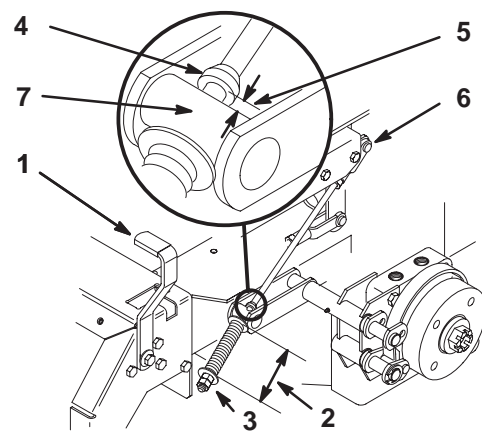

Figure 58
2. Measure the length of the spring. The measurement should be 2-3/4 inch (74 mm) between the washers (Fig. 58).
3. If an adjustment is necessary, loosen the jam nut below the spring and tighten the nut directly below the yoke (Fig. 58). Turn the nut until the correct measurement is obtained. Tighten the two nuts together and repeat on the opposite side of the unit.
6. Measure the distance between the trunnion roller and the collar on the brake rod. The measurement should be 3/16-1/4 inch (5-7 mm) (Fig. 58).
7. If an adjustment is necessary, loosen the jam nut directly below the yoke. Turn the bottom adjusting nuts until the correct measurement is obtained (Fig. 58). Tighten the jam nut at the yoke.